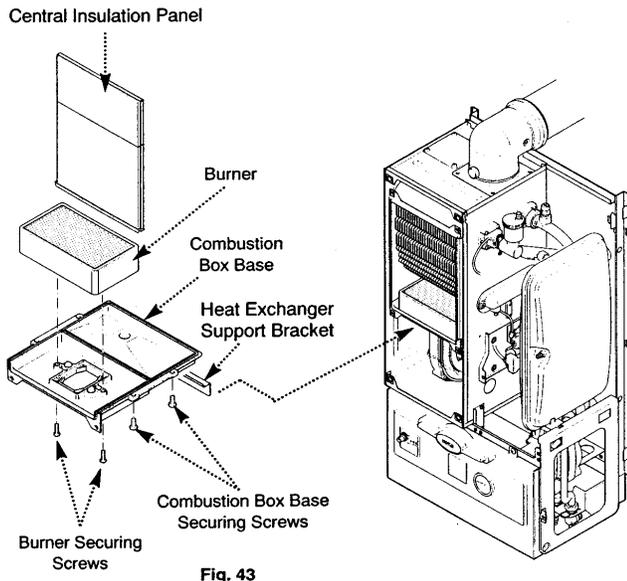

Fig. 43
**NOTE: The burner skin is fragile - handle with care. Clean and if necessary replace the burner (Fig. 43) (see note, page 26).**
- h) Loosen the two screws retaining the heat exchanger support bracket and slide to the left to remove (Fig. 43).
- j) Lower the central insulation panel and check condition (Fig. 43). Replace the lower insulation pad if necessary.